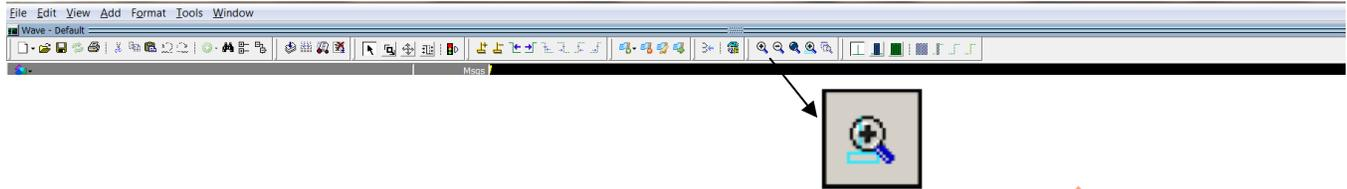
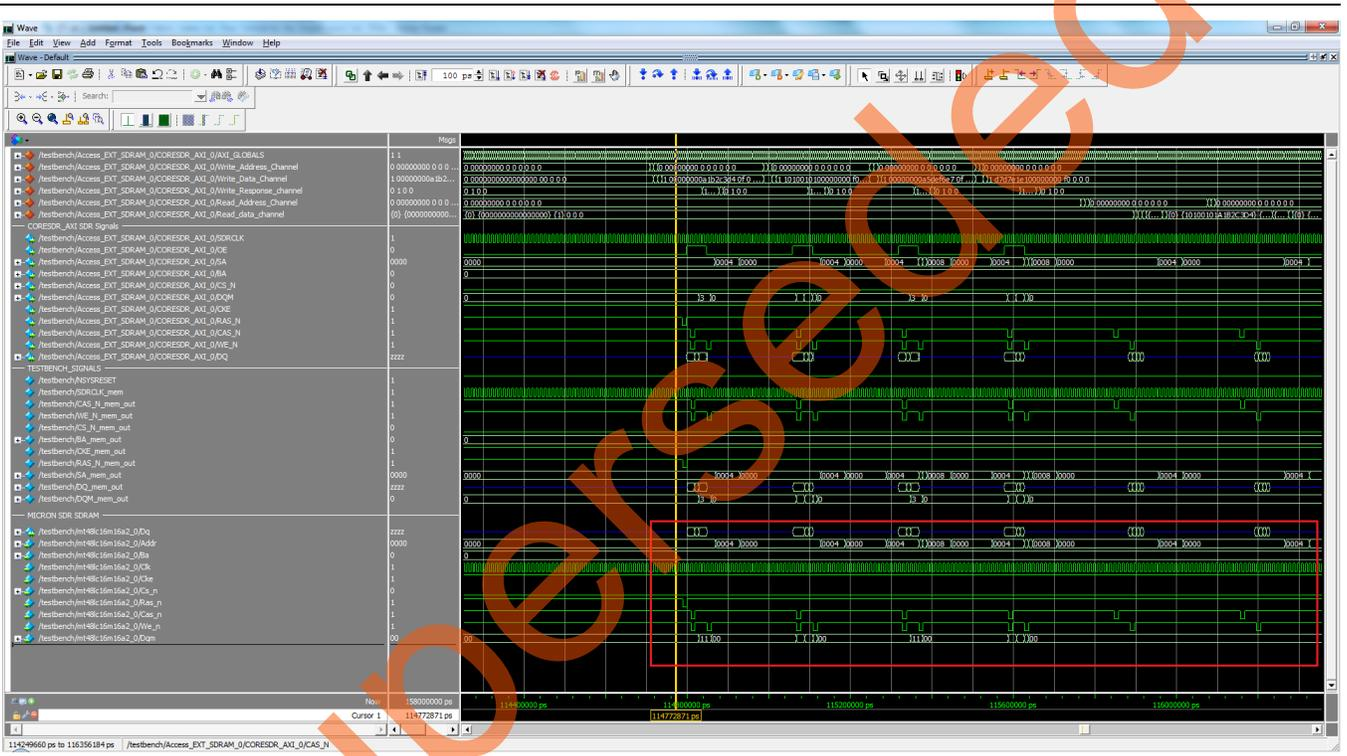

Figure 41. Zoom In on the Active Cursor
Figure 42. Write/Read Transactions
- Place the cursor at 114 μ s on the **Wave** window and click **Zoom In on the Active Cursor** to zoom in at that location, as shown in **Figure 41**. Click as needed until all write and read transactions to the external SDR SDRAM are seen on the **Wave** window, as shown in **Figure 42**.